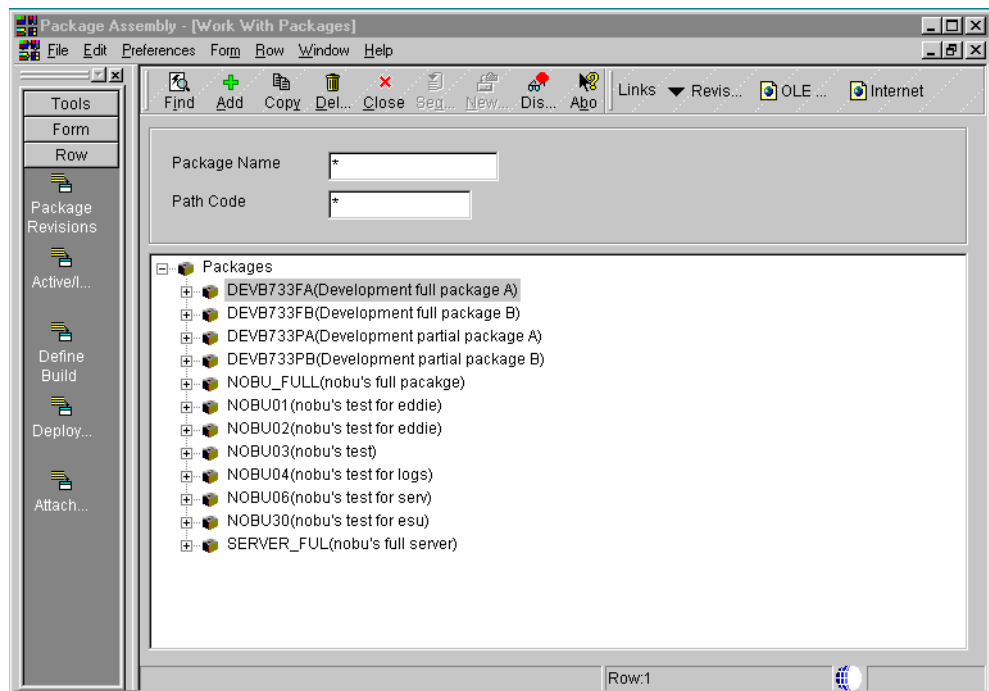

Figure 140. Work with Packages form
1. From the Package and Deployment Tools menu (GH9083), choose **Package Assembly** (P9601). The Work with Package form appears (Figure 140).